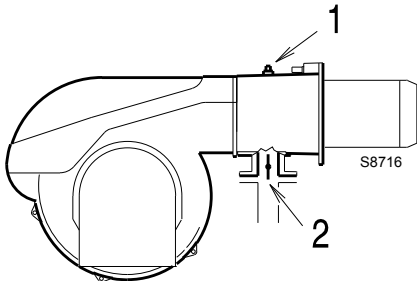

Fig. 28
Gas pressure measured at the test point 1)(Fig. 28), with:
Pressure loss at gas butterfly valve 2)(Fig. 28), with maximum opening: 90°.
- subtract the combustion chamber pressure from the gas pressure measured at test point 1)(Fig. 28).
Gas pressure at test point 1)(Fig. 28) = 12 mbar
To calculate the required gas pressure at test point 1)(Fig. 28), set the maximum output required from the Tab. N operation:
- Read off the pressure at test point 1)(Fig. 28) on the right in column 1.
pressure required at test point 1)(Fig. 28).